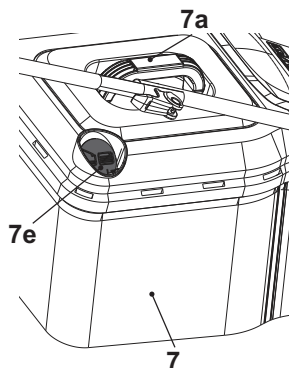

Fig. 13
2. When the hatch (7e) is closed, the grass catcher is full and must be emptied (Fig. 13).